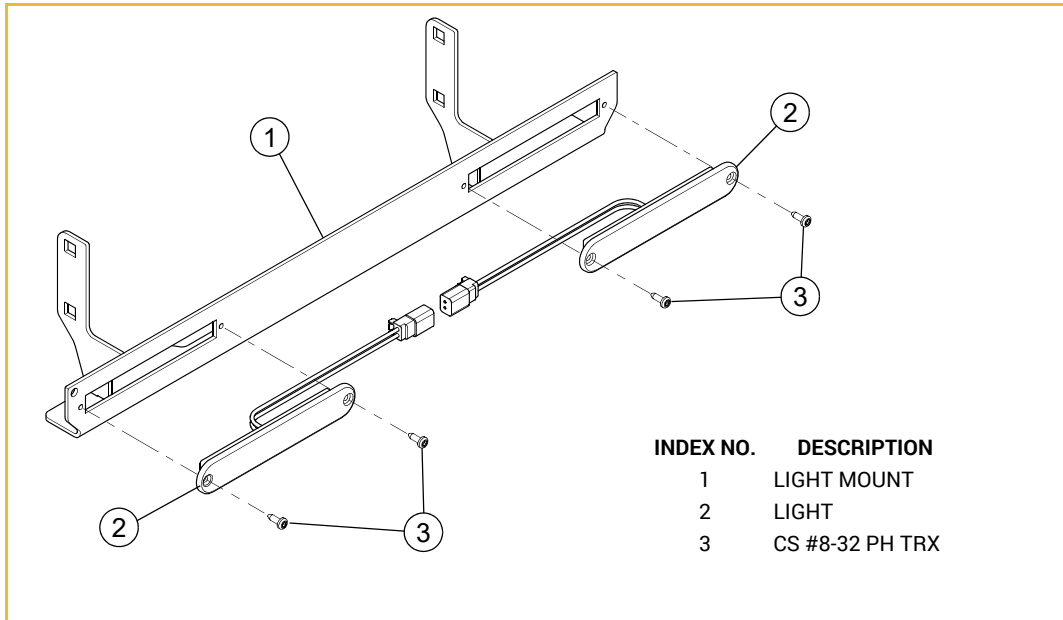

FIG. 1
3. Attach the lights to the light mount using the provided hardware. FIG. 1